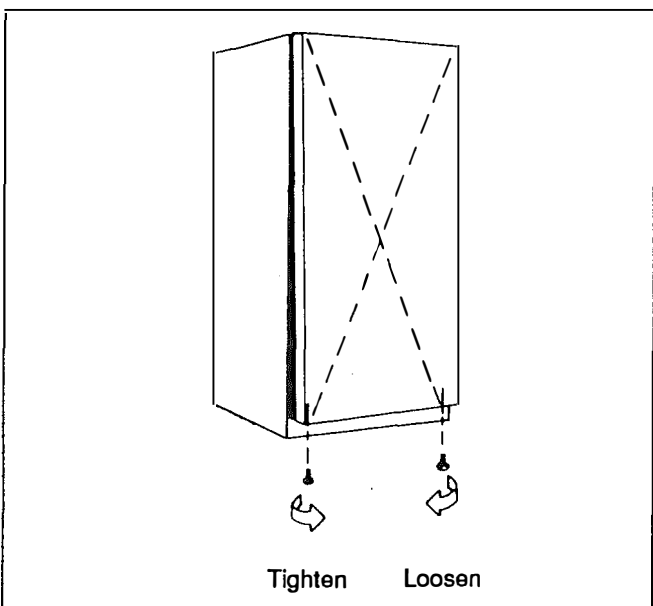

Figure B10 - Adjusting Seal At Bottom
3. If the door does not seal at the bottom, tighten the left hand, and loosen the right hand adjustment screws. See Figure B10.